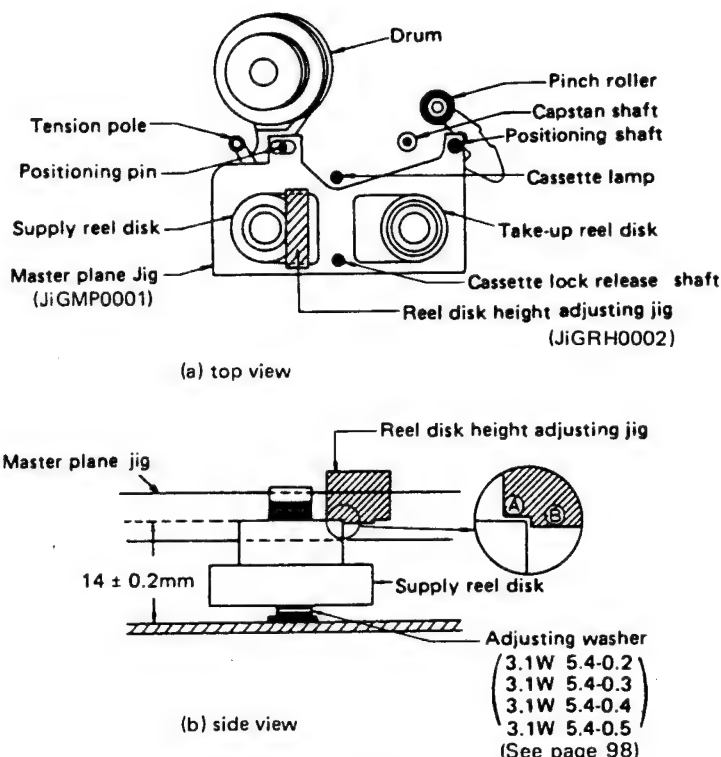

Figure 10.
1. Remove the cassette housing and set the master plane in the mechanism as shown in Fig. 10 (a), taking care not to hit the drum.
2. Insure that the reel disk is lower than the part "A" but higher than part "B" of Fig. 10 (b), by using the reel disk height adjusting jig.